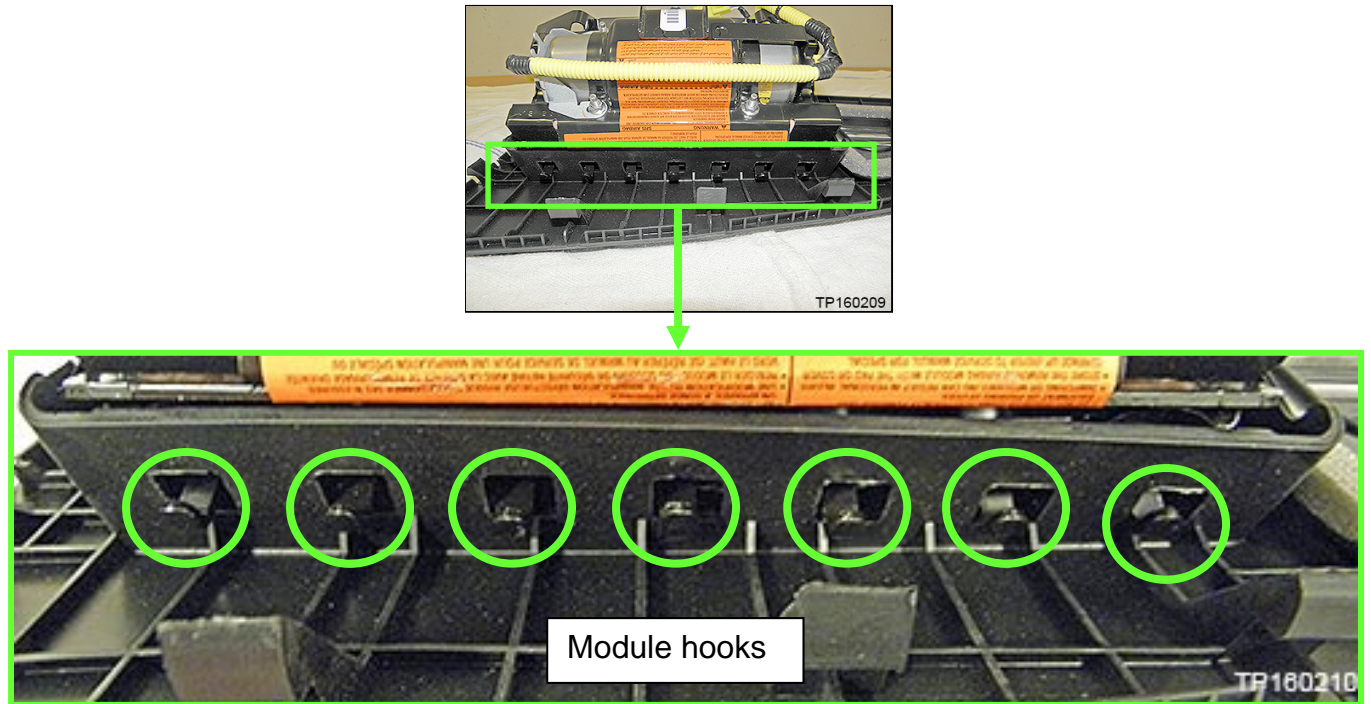

Figure 26
- Detach the module hooks (Figure 26) one at a time, starting at one end and then working towards the opposite end (seven hooks).